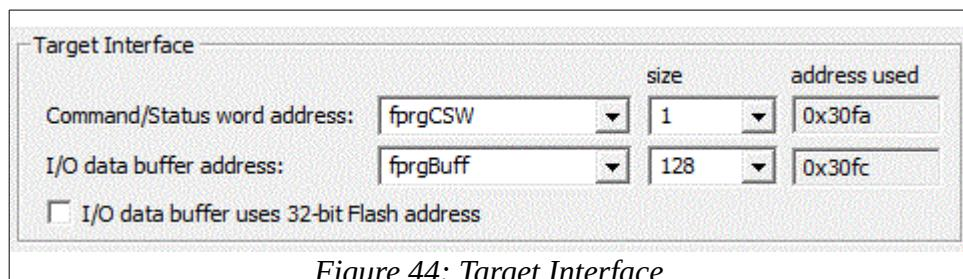
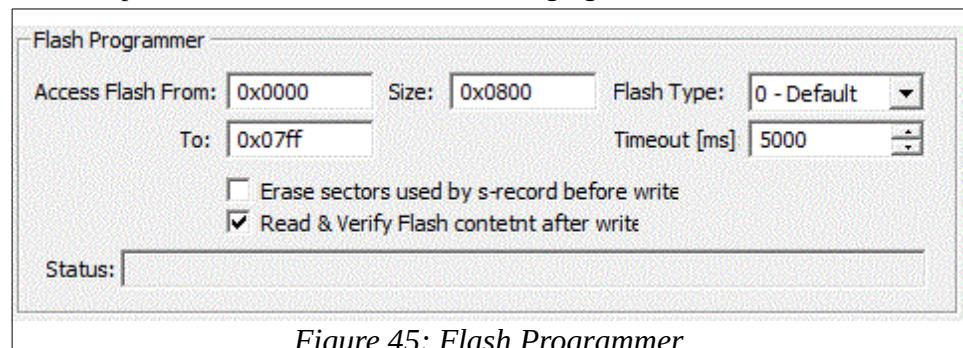

Figure 44: Target Interface
Figure 45: Flash Programmer
- Make sure the top is all set as in Figure 44 and in the lower part as in the figure 45.